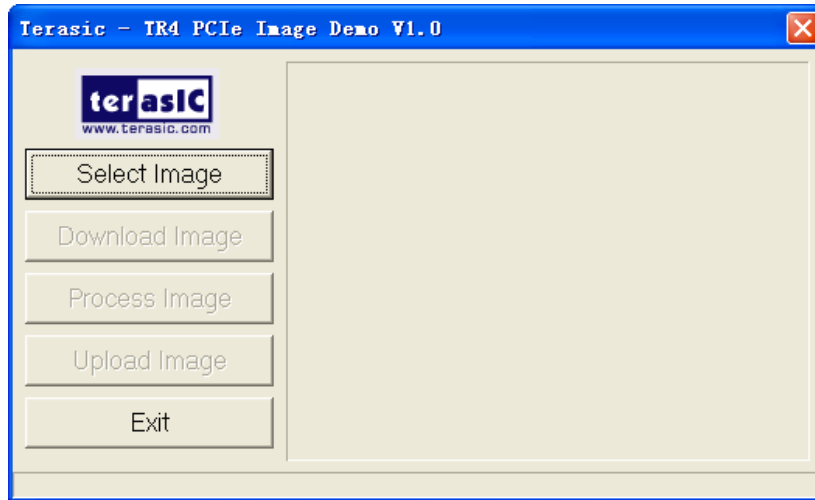

Figure 6-16 PCIe Image Demo GUI
- Launch the demo program PCIe_Image_Demo.exe shown in **Figure 6-16**.